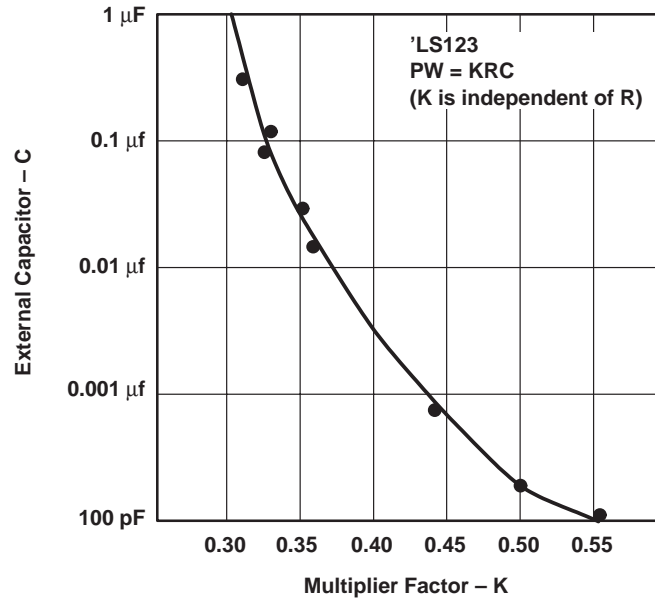

Figure 4. Multiplier Factor Versus External Capacitor (C_{ext})
8. A 0.001- μF to 0.1- μF bypass capacitor between V_{CC} and GND as close as possible to the 'LS123 is recommended (see Figure 4).